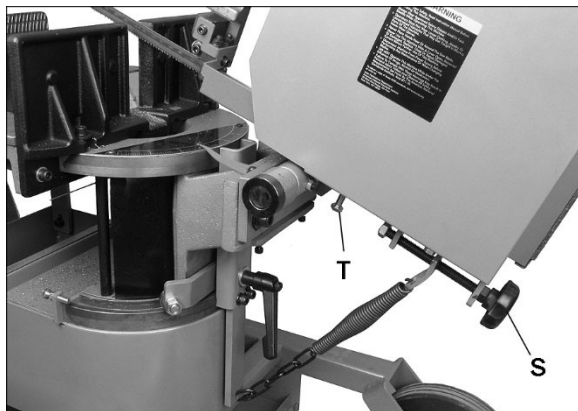

Figure 7-12
Spring tension has been set by the manufacturer, and should not require adjustment. If future problems arise, indicating improper counterbalance, adjust spring with knob (S, Figure 7-12).
5. Place a machinists' square on cutting platform and against *back edge* of blade to verify perpendicularity. If adjustment is needed, loosen nut and turn vertical stop screw (T, Figure 7-12). Tighten stop screw nut against bow to secure setting.